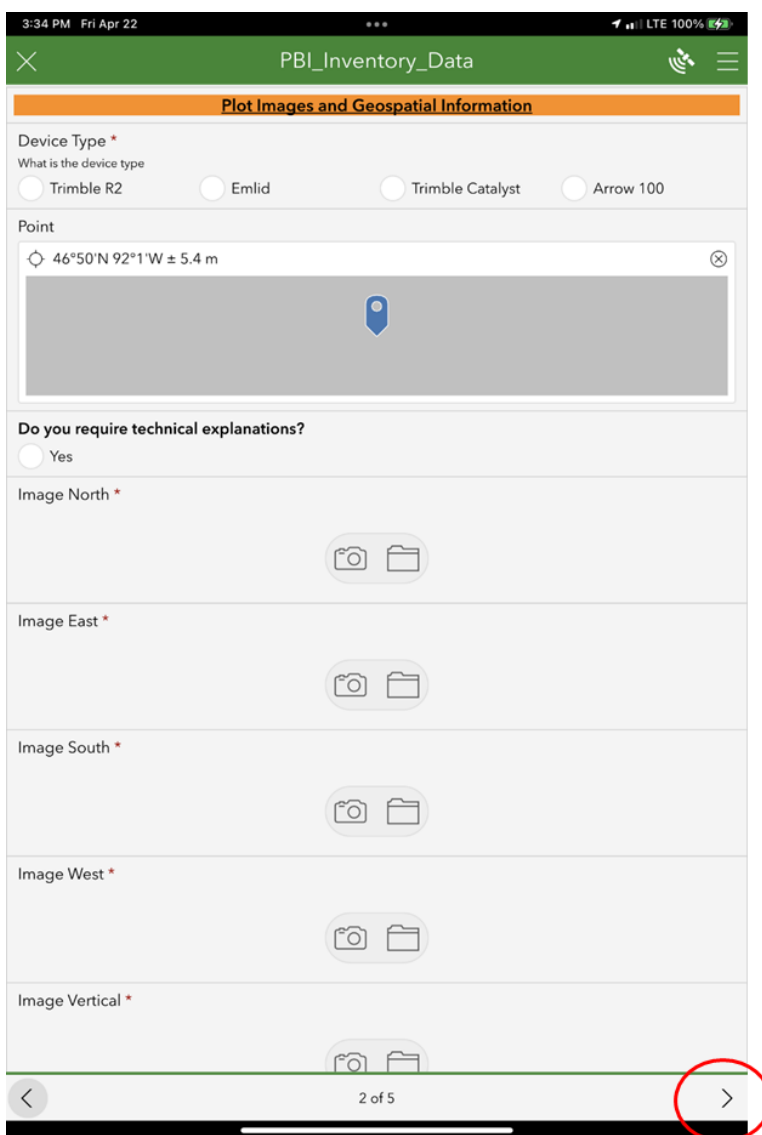

Figure 54. Figure of Survey123 form Showing Page 2 – Plot Images and Geospatial Information
Survey Page 2 – Plot Images and Geospatial Information (Figure 54)
2. Following completion of page 2, continue to Page 3 by selecting the Arrow in the bottom right corner of screen (Figure 54)